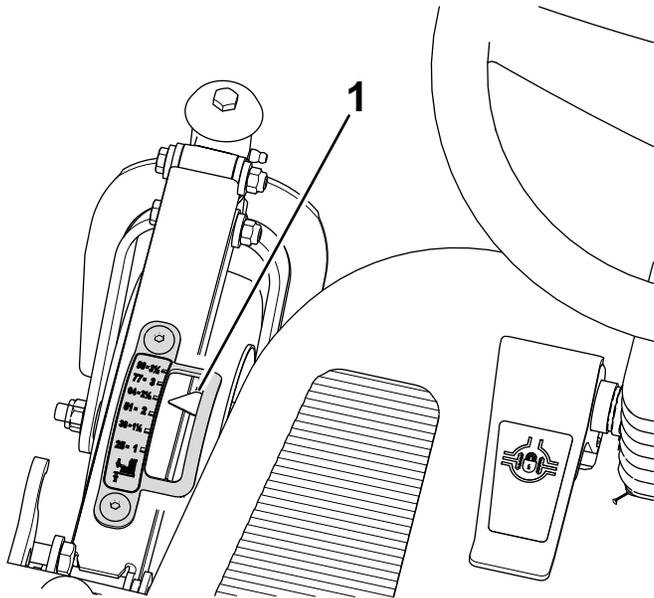
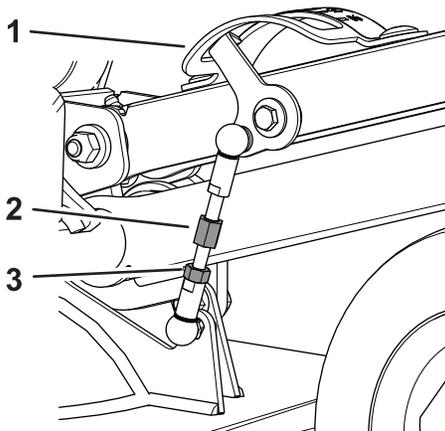

Figure 105
Figure 106
2. Sit in the operator's seat and look at the pointer of the height-of-cut indicator (Figure 105).
- A. Loosen the jam nut that secures the height-of-cut link (Figure 106).
- B. Rotate the link until the pointer of the height-of-cut indicator is aligned to 64 mm (2-1/2 inch) mark when viewed from the operator's seat (Figure 105 and Figure 106).
- C. Tighten the jam nut (Figure 106).